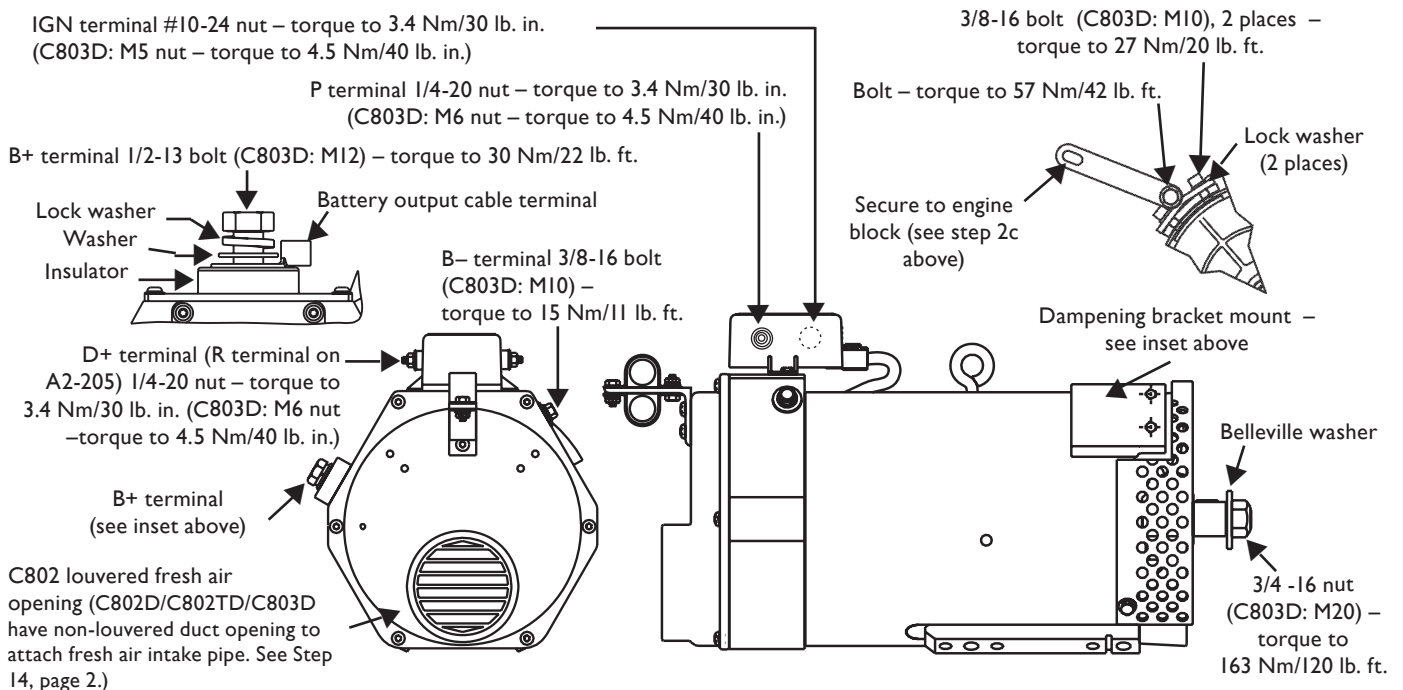

Figure 1 - C802/C802D/C802TD and C803D Alternator Installation Details
- c. Some alternator installations may require a vibration dampening bracket (CEN part no. A4-104). Attach one end of bracket to drive end housing and other end to engine. See Figure 1. See engine manufacturer's torque specification for engine gear case bolt torque.